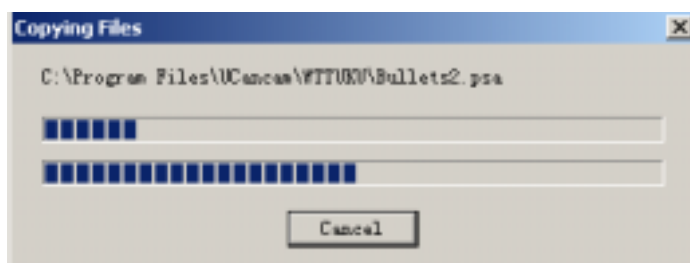

Fig.1-8
9. Click Next to start copying files. (Fig.1-8)